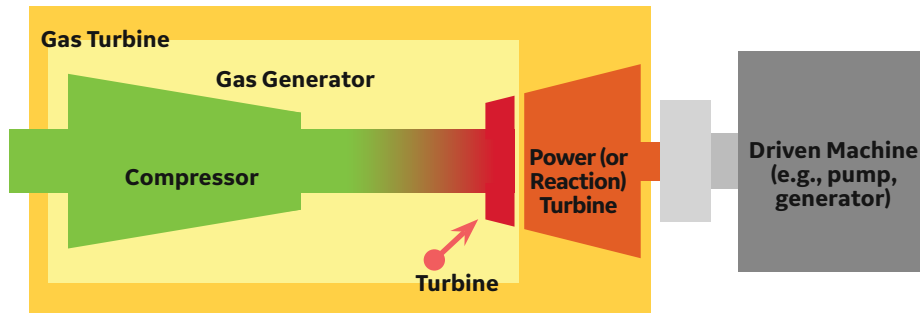
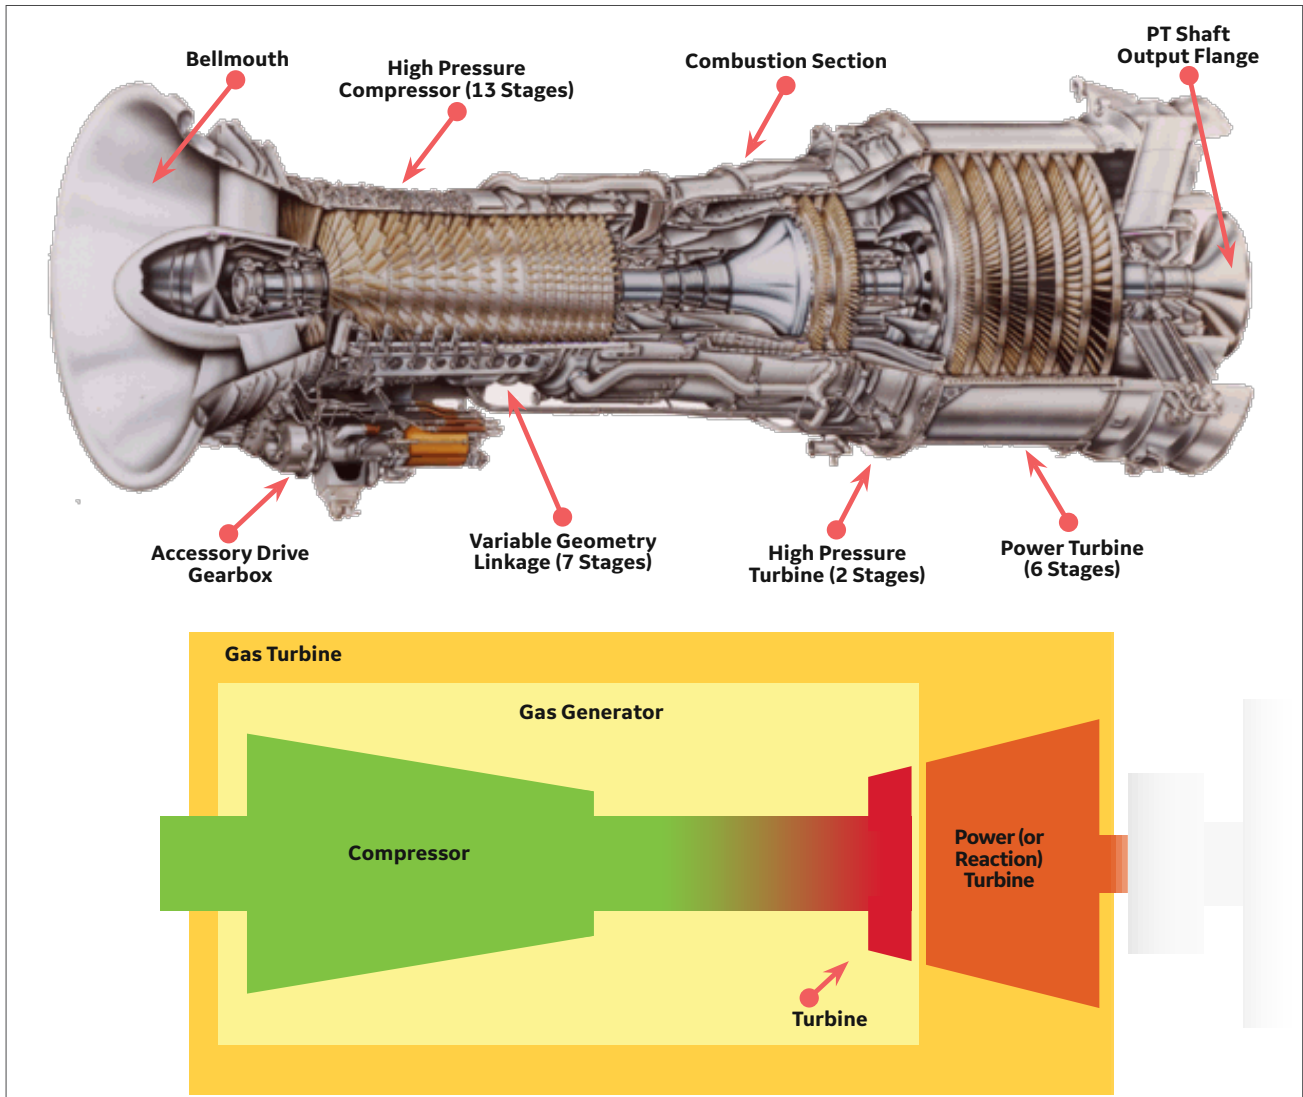

Figure 2 - Single Spool Generator
Figure 5 - GELM2500 Aero-derivative Gas Turbine
This basic design as illustrated in Figure 2 is representative of GE's LM2500/PGT25 and Rolls Royce's Avon.
- Figure 5 shows a cross-section of the GE LM2500 Aero-derivative Gas Turbine with the basic diagram from "Figure 2 – Single Spool Gas Generator" on page 3 to illustrate how the complexity of Aero GT design can be broken down into smaller components.